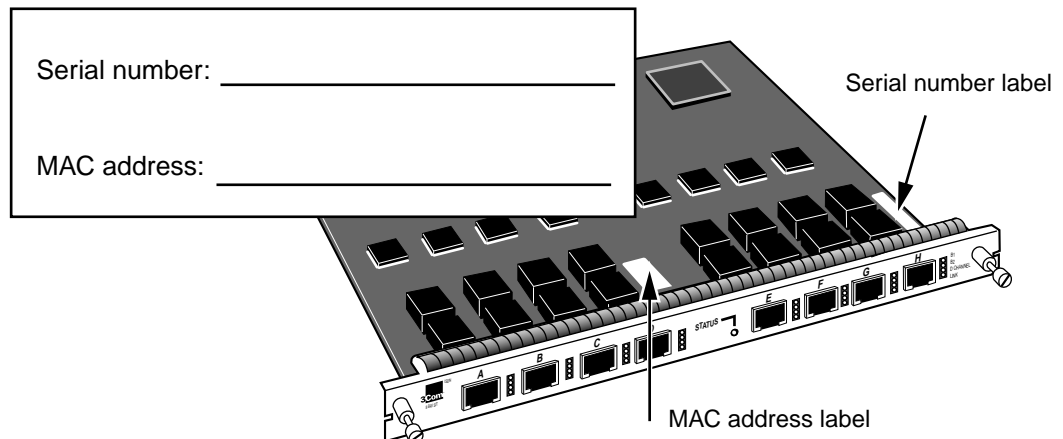

Figure 1-2 8-Port BRI Module Label Information
- 3 Write down the serial number and the MAC address from the labels on your module in the space provided in Figure 1-2. You will need this information if you have to contact your network supplier.